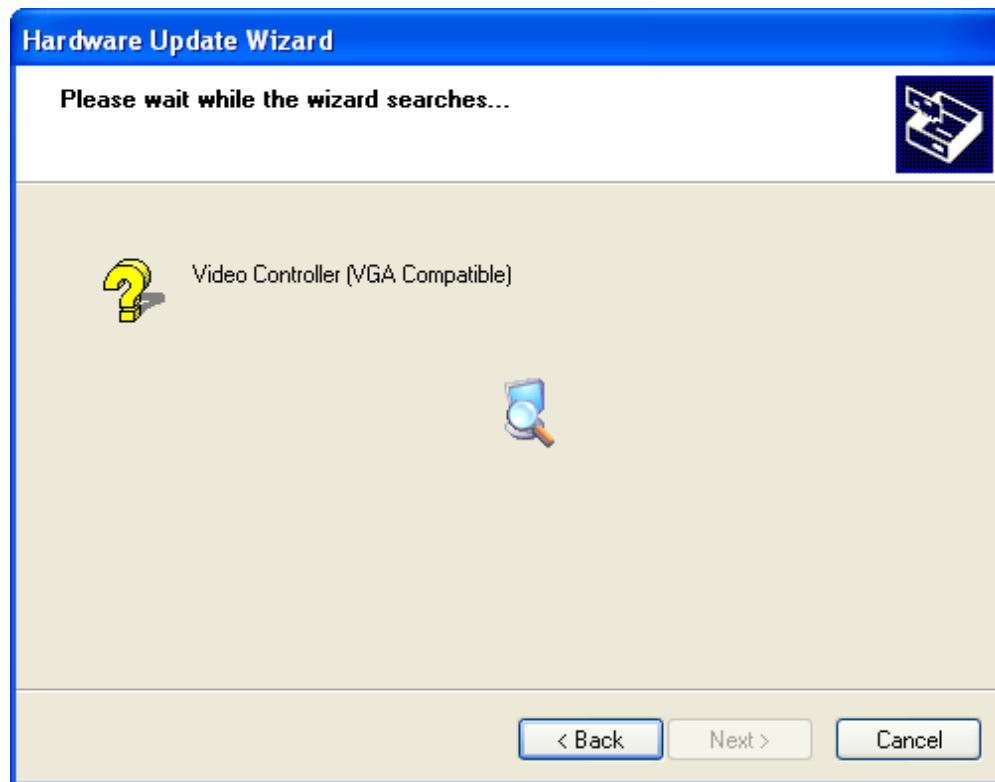

Figure 7-11: Wizard Search
Step 10: The Wizard then searches for the driver. See **Figure 7-11**.